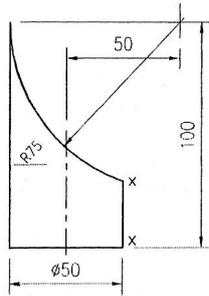

FIG. 4
4. A right cylinder cut by a circular arc is shown in Fig. 4. Draw this view and project the full template from it, placing the seam at XX. Scale: full size or 1 : 1.